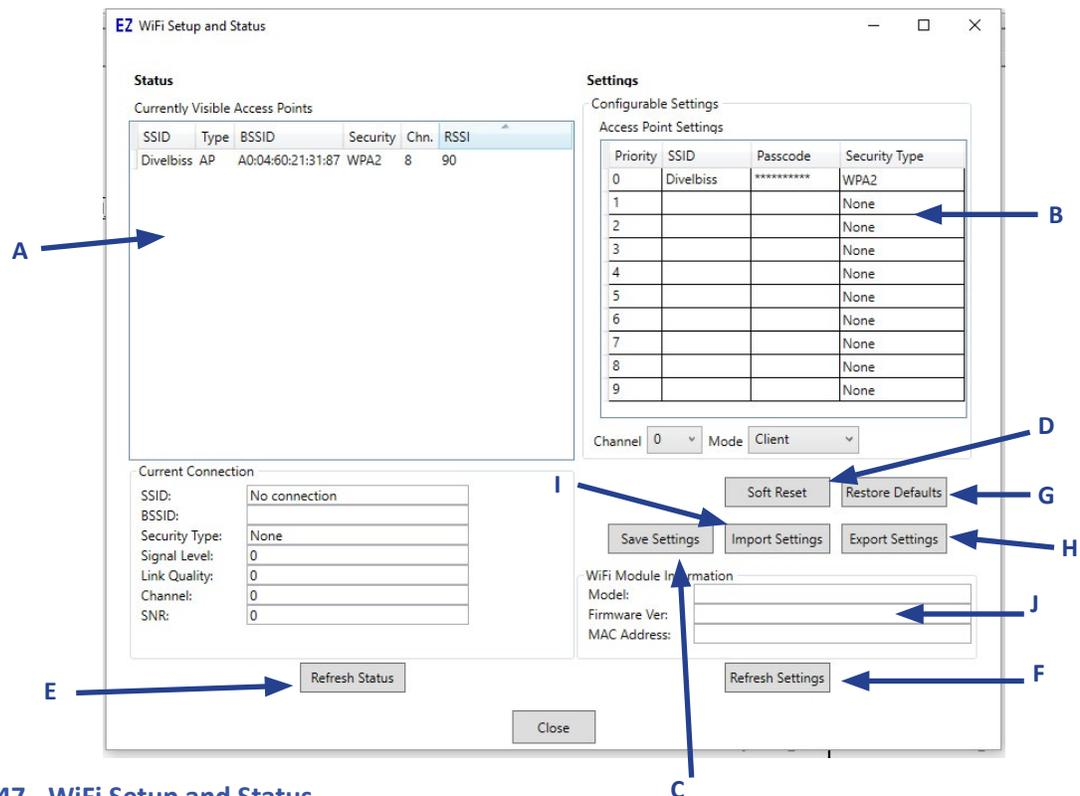

Figure 2-47 - WiFi Setup and Status
5. The **WiFi Setup and Status** window will open. An intermediate temporary dialog may be seen while the Wi-Fi module is accessed and the current Wi-Fi setup read. Refer to Figure 2-47.
6. Referring to Figure 2-47, the *Currently Visible Access Points* (item A) pane shows all the networks currently in-range for the Wi-Fi to detect. **The network must be in-range to be configured.**
7. In the Access Points Settings, enter the **SSID** and **Passcode** in their respective places (item B). It will be necessary to double-click to enter the values. Refer to Figure 2-47.
Multiple Wi-Fi networks may be saved by adding them to list shown in Figure 2-47. Each setting is stored in the on-board Wi-Fi module and is maintained during a power loss. The priority of Wi-Fi network to connect to is based on the priority number in the list.